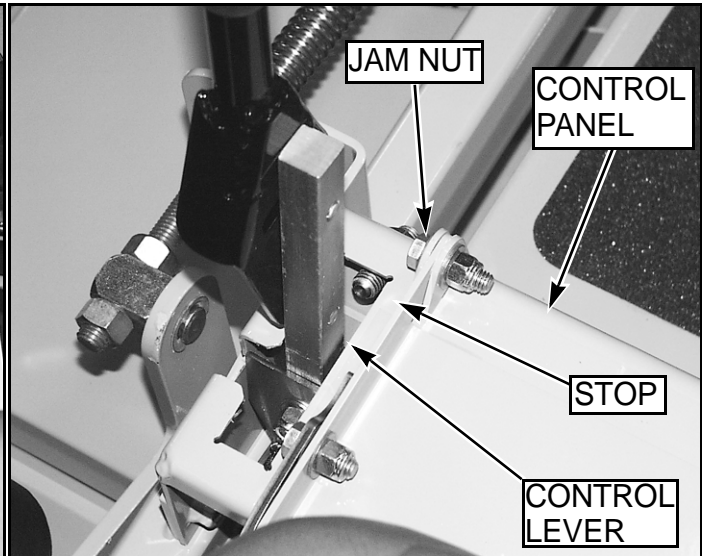

FIG. 80
8. After adjusting for neutral it may be necessary to re-adjust the control lever stop "FIG. 80".
The control lever stops "FIG. 80" are designed to do two things: First, and most important, they must keep the pumps from bottoming out internally. Secondly, the stops may be adjusted to help drive straight when the control levers are pushed forward against the stops.